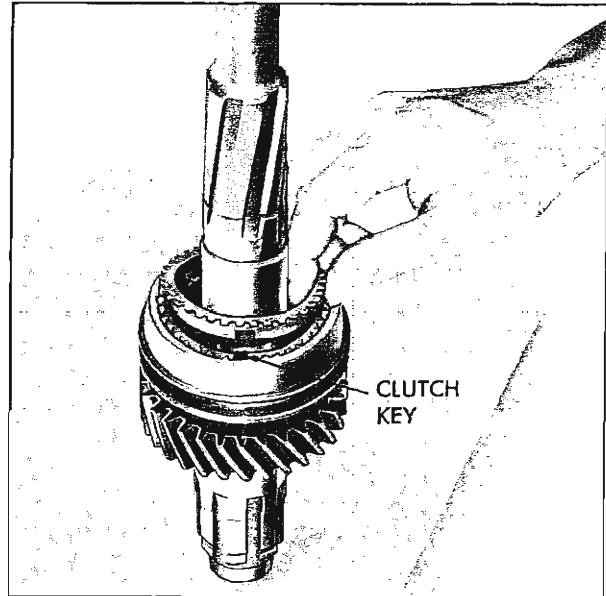

Fig. 7A-26 Installing Synchronizer Ring
2. Install 1-2 Synchronizer clutch assembly to mainshaft (sliding clutch sleeve taper toward the rear, hub to the front), together with a synchronizing ring on either side so their keyways line up with the clutch keys (Fig. 7A-26).